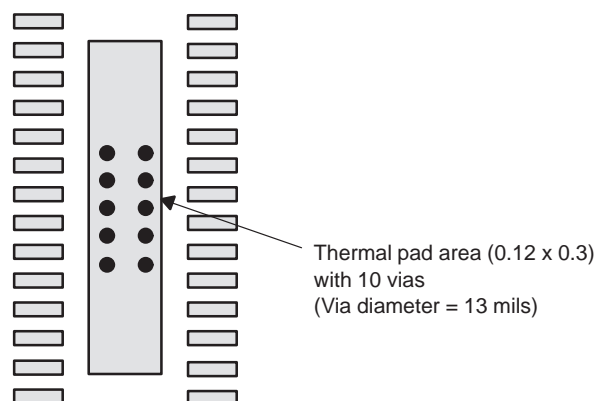

Figure 86. PowerPAD™ PCB Etch and Via Pattern
1. Prepare the PCB with a top side etch pattern as shown in Figure 86. There should be etch for the leads as well as etch for the thermal pad.